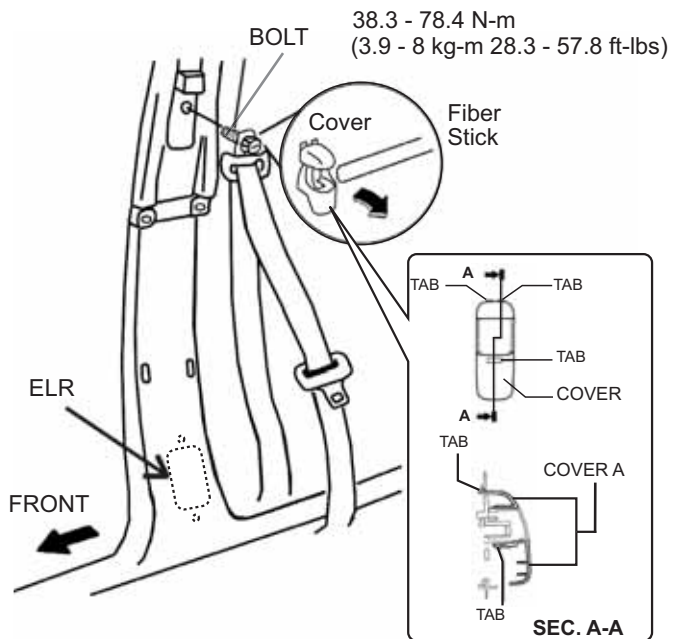

FIGURE 37
- 1.) USE A FIBER STICK TO REMOVE THE BOLT COVER. THERE ARE THREE TABS SECURING THE BOLT COVER IN PLACE. (SEE FIGURE 37 AND SEC. A-A)
- 2.) REMOVE THE BOLT THEN REMOVE THE FRONT SEAT BELT FROM B-PILLAR. (SEE FIGURE 37)